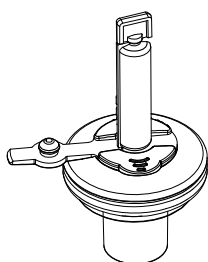

Figure 5: Filling the nebulizer unit
2. Use a prefilled ampoule or syringe to add liquid into the filler port of the nebulizer (Figure 5).